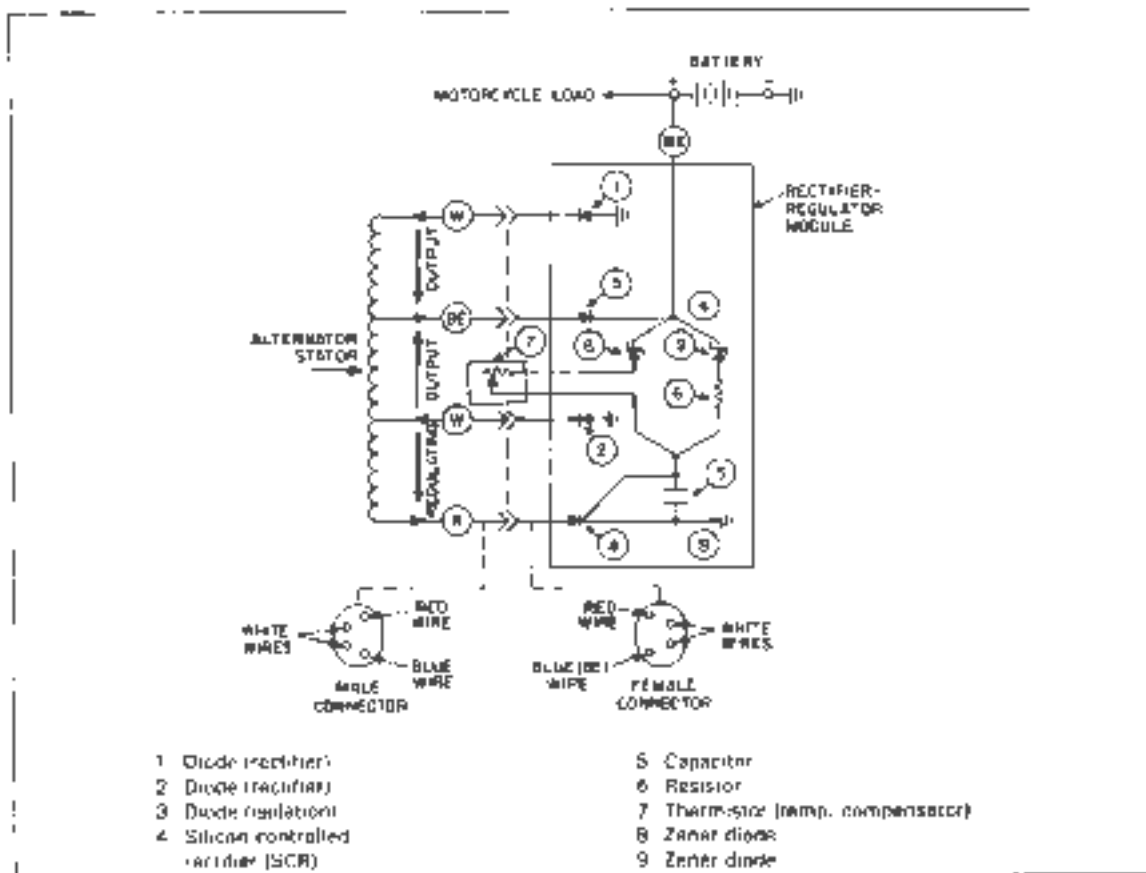

Figure 5-8 Charging System - Schematic Diagram
Since solenoid coil requires 12V to actuate plunger closing main switch contacts, use a 12-volt battery. Leads A and B are connected to terminals 1 and 2 (see terminals) to actuate solenoid. A sharp click should be heard from the solenoid switch when making this connection. No click or a heavy spark at the terminals when connecting wires would indicate either an open or short in the solenoid winding and solenoid switch must be replaced. If the solenoid winding checks good and plunger does close main switch contacts, there is still a possibility contacts are badly burned or eroded and will not pass heavy current. (See Figure 5-8).
The alternator consists of two main components: the rotor (magnetic field) which is mounted on the engine sprocket shaft, and the stator (armature) which is bolted to it on the engine crankcase. See Figure 5-8.
The stator consists of twelve (12) coils, each wound over a laminated iron core. The coils are positioned radially around the engine crankshaft and bolted to the outside of the engine crankcase. See Figure 5-8.